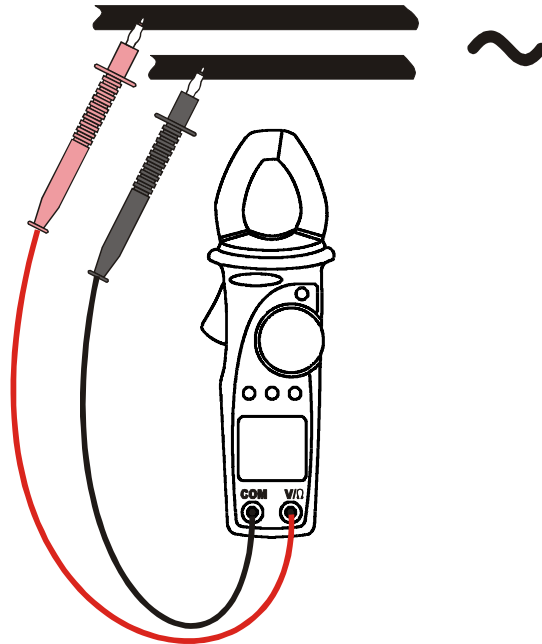

Fig. 4: Use of clamp for AC voltage measures.
2. Insert the test leads into the jack, the red lead into V/Ω jack, and the black lead into the COM jack. Refer to Fig. 4.
4. Press R-H key you can select manually the measurement ranges in cyclic order. Press R-H key 2 seconds to return to the AUTOMATIC range selection.